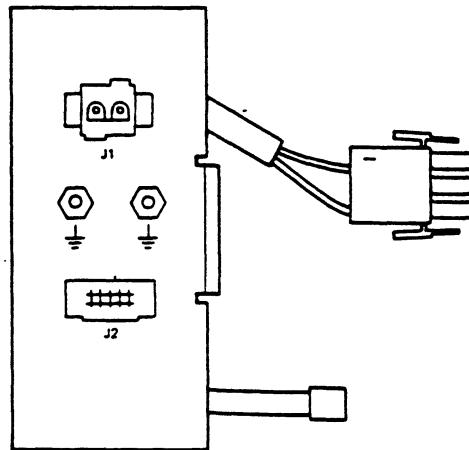

FIGURE 2-35 BBU CONNECTOR PANEL
13. Install the BBU connector panel (shown in Figure 2-35) in the bulkhead opening and tighten the two flat-head screws into the bulkhead frame.